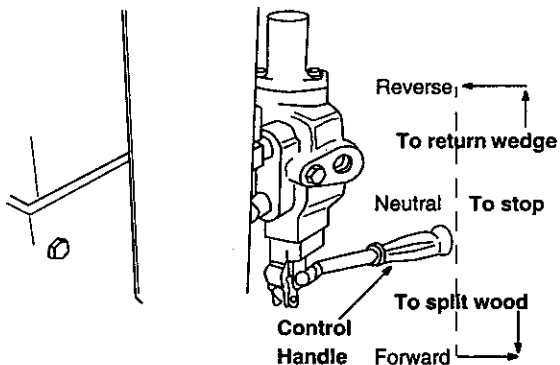

Figure 8
- Use the control handle to engage the wedge to the far extended position. Refer to Figure 8.
- Move control handle BACK or UP to return the wedge. See Figure 8 on page 10.
The control handle has three positions. See Figure 8.